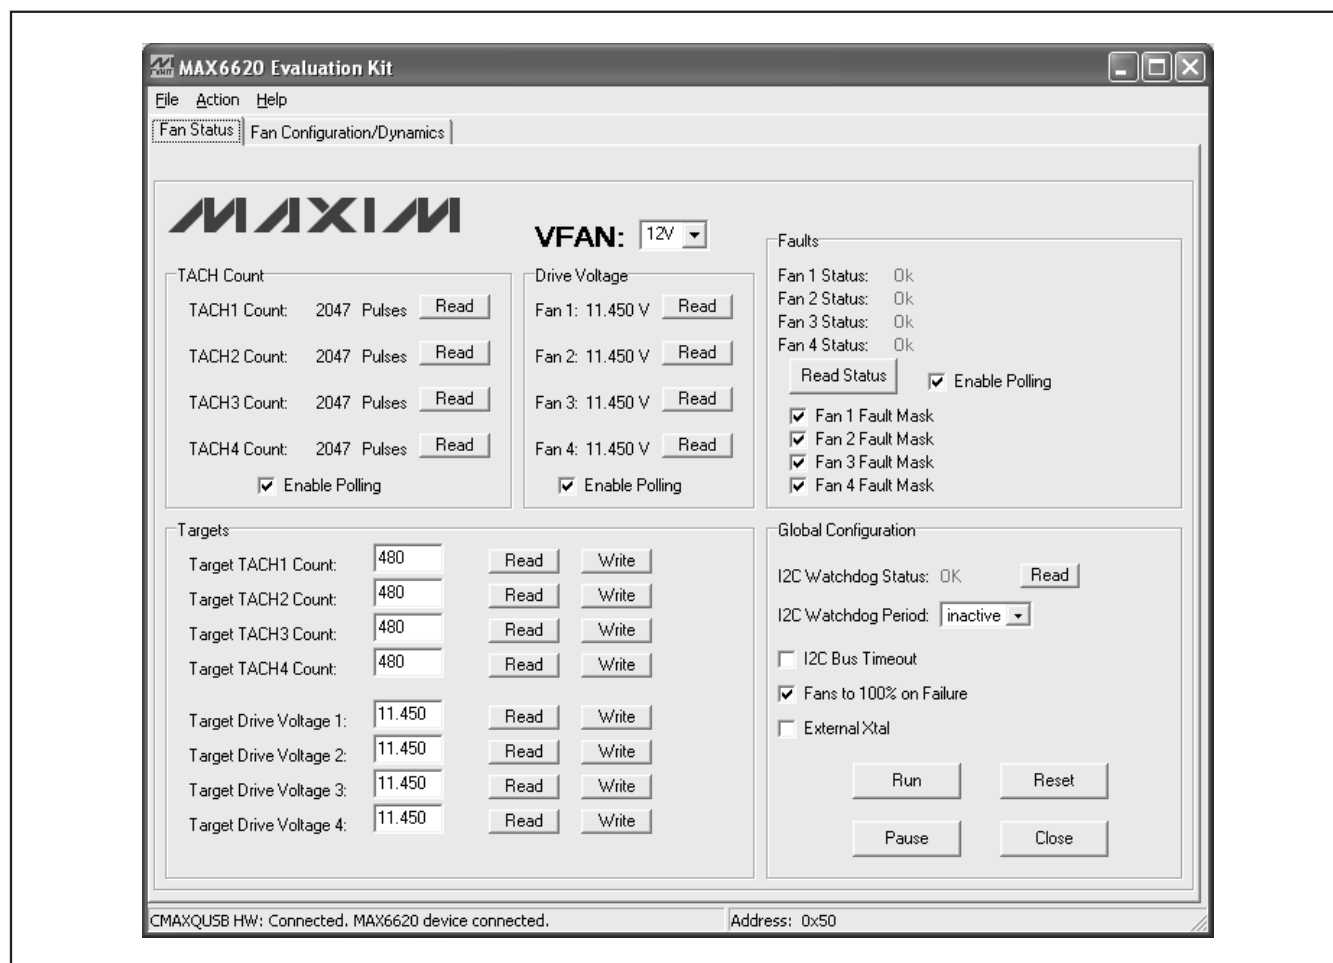
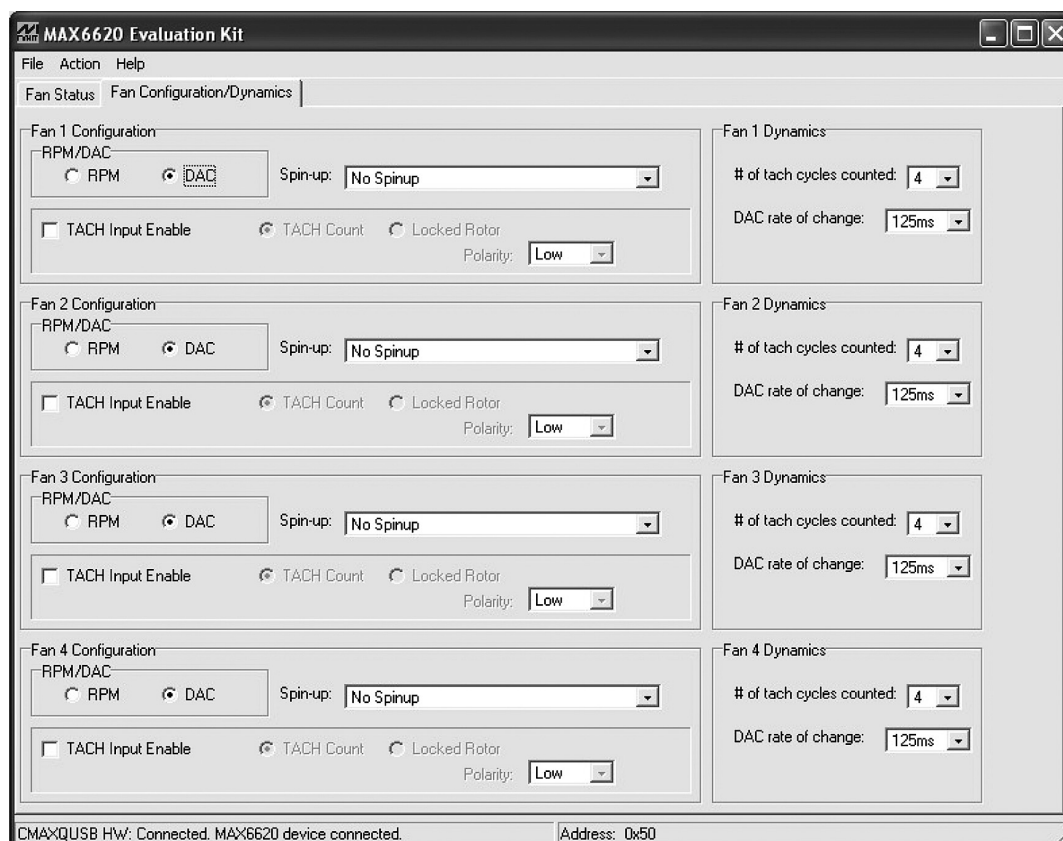

Figure 1. MAX6620 EV Kit Software—Fan Status Tab
Figure 2. MAX6620 EV Kit Software—Fan Configuration/Dynamics Tab
- 10) Normal device operation is verified when **C Maxwell HW: Connected. MAX6620 device connected.** is displayed at the bottom left of the MAX6620 EV kit main window (Figure 1).
The program's main window contains two tabs, **Fan Status** and **Fan Configuration/Dynamics**, which provide controls for the MAX6620 EV kit software's configurable features. The **Fan Status** tab sheet (Figure 1) provides controls for the **Global Configuration** register, **TACH Count**, **Drive Voltage**, **Targets**, and **Faults**. The **Fan Configuration/Dynamics** tab sheet (Figure 2) provides controls for **Fan\_ Configuration** and **Fan\_ Dynamics**. A status box is also provided at the bottom of the program's main window and is used to verify command module and device connectivity.
The MAX6620 EV kit software can be configured to work with 5V or 12V DC fans. Manually select the appropriate fan voltage from the **VFAN** drop-down list (Figure 1). The default setting is for use with 12V DC fans.
The **Fan\_Configuration** group boxes (Figure 2) configure the corresponding fan's **Spin-up** conditions, **TACH Input Enable** settings, and set either RPM or DAC mode.
There are two methods for communicating with the MAX6620, through the normal user-interface panel (Figures 1 and 2), or through the SMBus commands available by selecting the **Interface Diagnostic Window** menu item from the **Action** menu bar. The **Maxim Command Module Interface** window pops up and includes a **2-wire interface** tab that allows for execution of the **SMBusSendByte()** and **SMBusQuick()** commands.